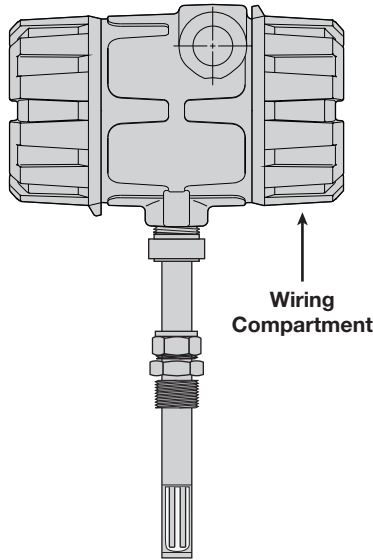

Figure 7
2. Unscrew and remove housing cover of wiring compartment. Refer to Figure 7.